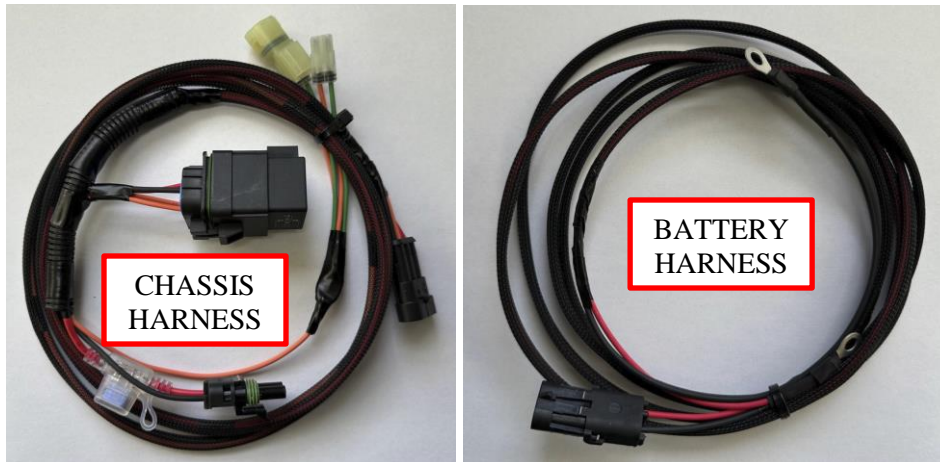

Figure 8: Chassis harness and battery harness identification.
9. Two harnesses are routed in the following steps to complete the installation. The chassis harness and the battery harness are shown in Figure 8.